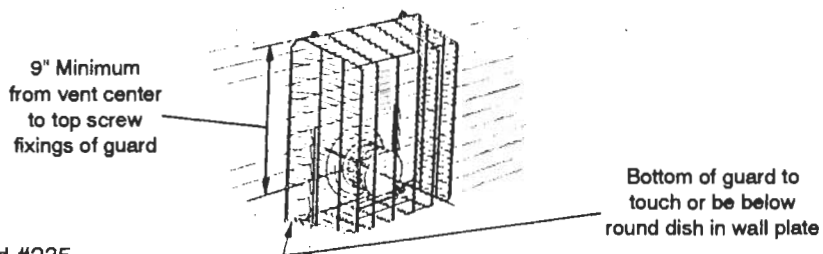

Fig. 3. Terminal Guard #235
- 2.3.5.** **Warning:** If the outside vent terminal is located where it will be accessible to any person, a guard must be fitted over the terminal to prevent damage and to prevent it being touched. The vent terminal becomes very hot when the appliance is in use and can cause burns. A special guard designed for this appliance is available from your supplier - Ask for Valor Part #235 (*see figure 3*).